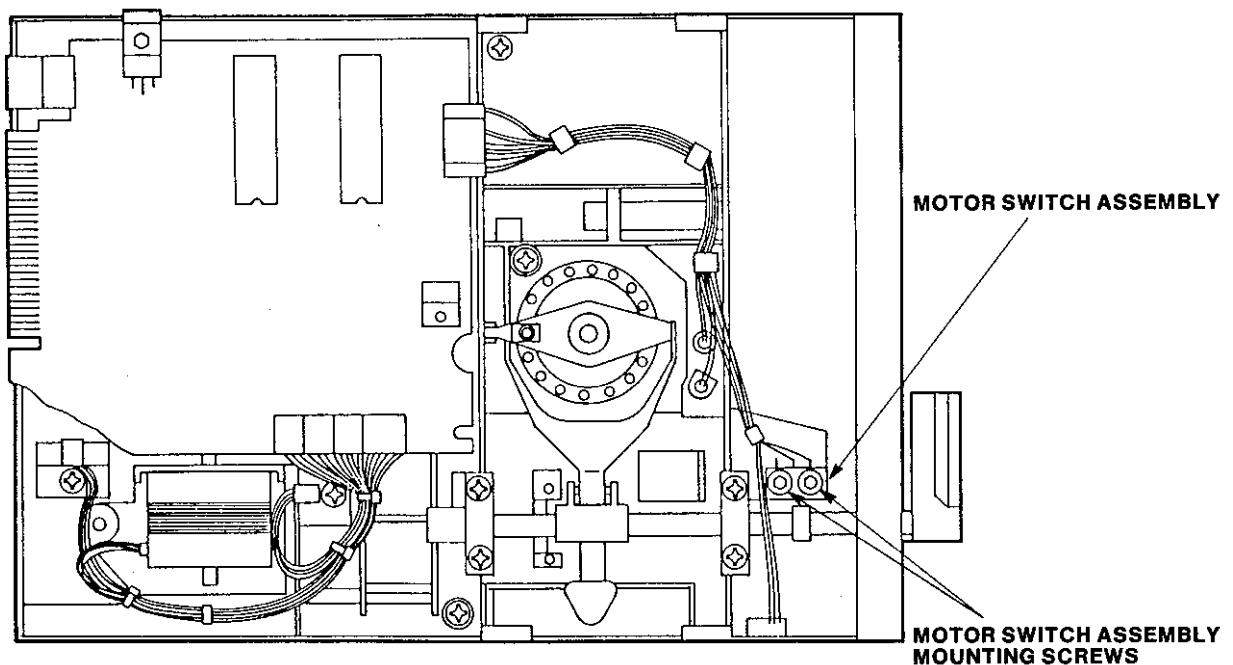

FIGURE 6-13
2. Remove the mounting screws from the motor switch (Figure 6-13).